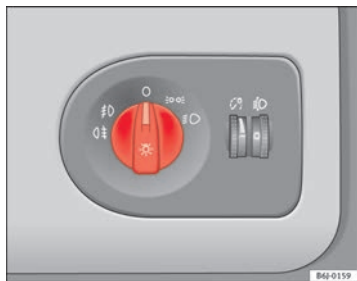

Fig. 52 Detailed view of the dash panel: lights, fog lights and rear fog light switch
- Turn the light switch \Rightarrow fig. 52 to position ☞ .